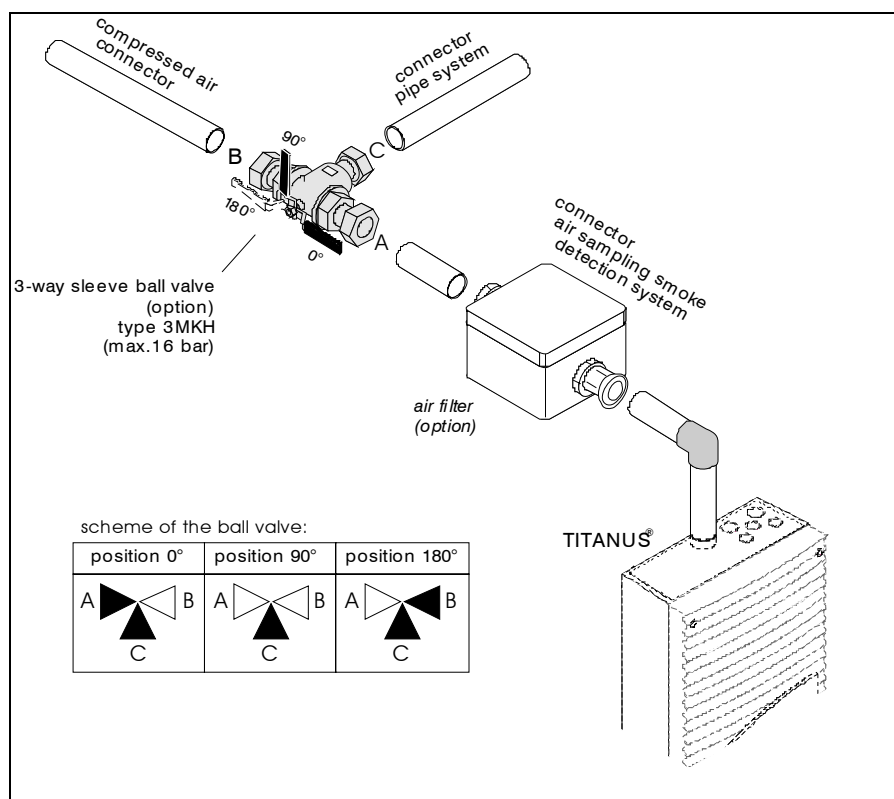

Fig. 6.11: Montage des 3-Wege-Kugelhahns
During installation, ensure that the correct connections are made (see diagram in fig. 6.11):
2. Separate the pipes to be blown through from the relevant device via the 3-way ball valve by re-setting the ball valve from operating position 0° to 180° (see fig. 6.11).